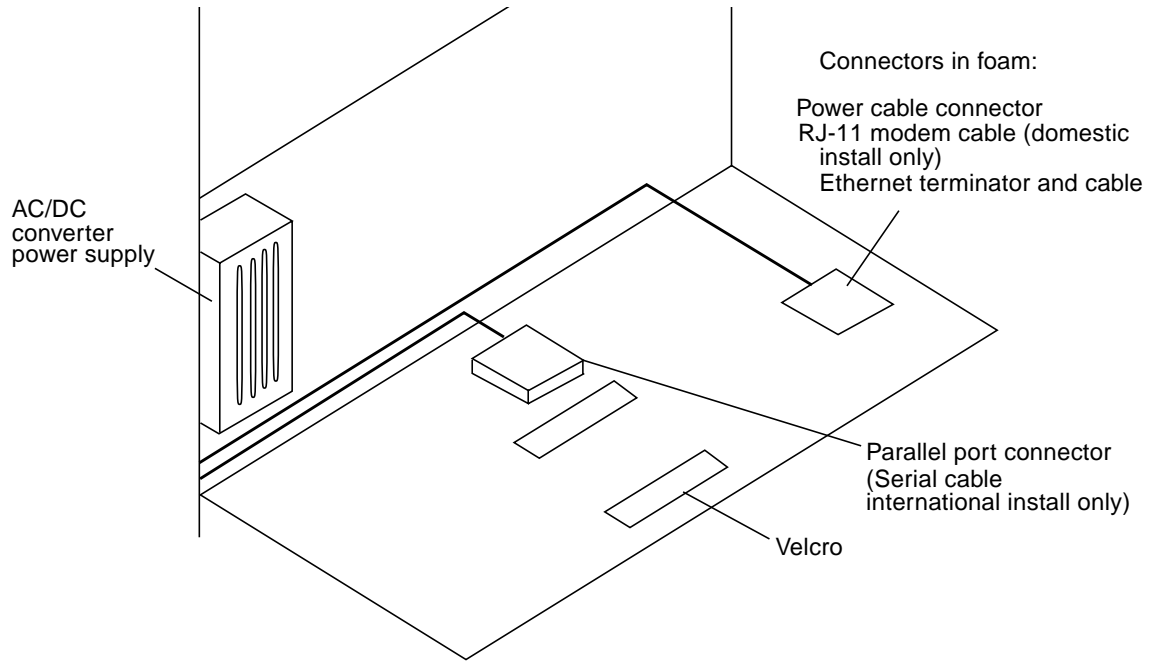

FIGURE 4-11 System Console Installation
4. **The System Console is held in place by snap-type Velcro strips. See FIGURE 4-11.**
8. **Connect the serial cable to the System Console serial port (see FIGURE 4-11).**